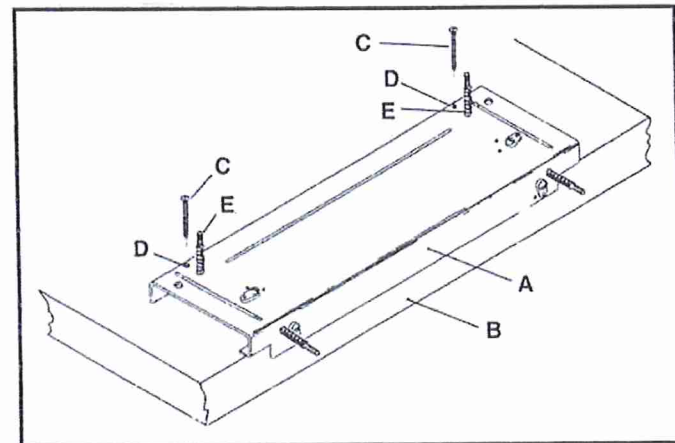

Fig. 4
3. Remove springs from clamp bar screws (E) Fig. 4.
4. Snugly butt templet apron (A) Fig. 4, against front of bench top or plywood (B) Fig. 4.
5. Insert round head wood screws (C) Fig. 4, in holes (D) Fig. 4, at rear edge of templet base and screw into bench top or plywood to firmly attach templet base.